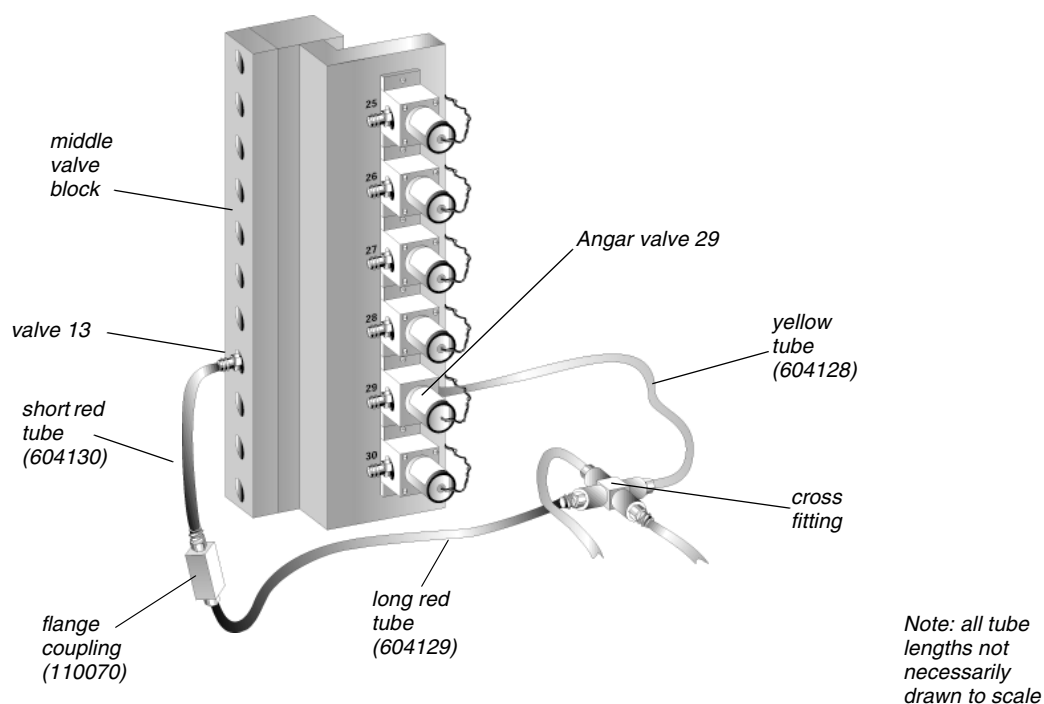

Figure 3-4. New 0.125-mL measuring loop configuration
2. Attach this short red tube to Valve 13 on the 11-port Valve Block (Figure 3-4). Use only your fingers to tighten the fitting.
4. Attach the new long red tube labeled “ASSY, TUBE CPLG TO X-FTG” (P/N 604129) to the cross-fitting (Figure 3-4), again using your fingers.
5. Connect the two red tubes (P/N 604129 and 604130) with a 1/4-28 flange coupling (P/N 110070) (Figure 3-4) using only your fingers until the connections are tight.
6. Remove the existing tube that connects the cross-fitting to Angar Valve 29 and replace it with the new yellow tube labeled “ASSY, TUBE X-FTG TO VALVE 29” (P/N 604128) (Figure 3-4).